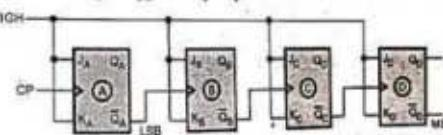

Fig. 5.9.7 Logic diagram of 4-stage positive edge triggered ripple counter
**Solution :** When flip-flops are positive edge triggered, the  $\bar{Q}$  output of previous stage is connected to the clock input of the next stage. Fig. 5.9.7 shows 4-stage asynchronous counter with positive edge triggered flip-flops.